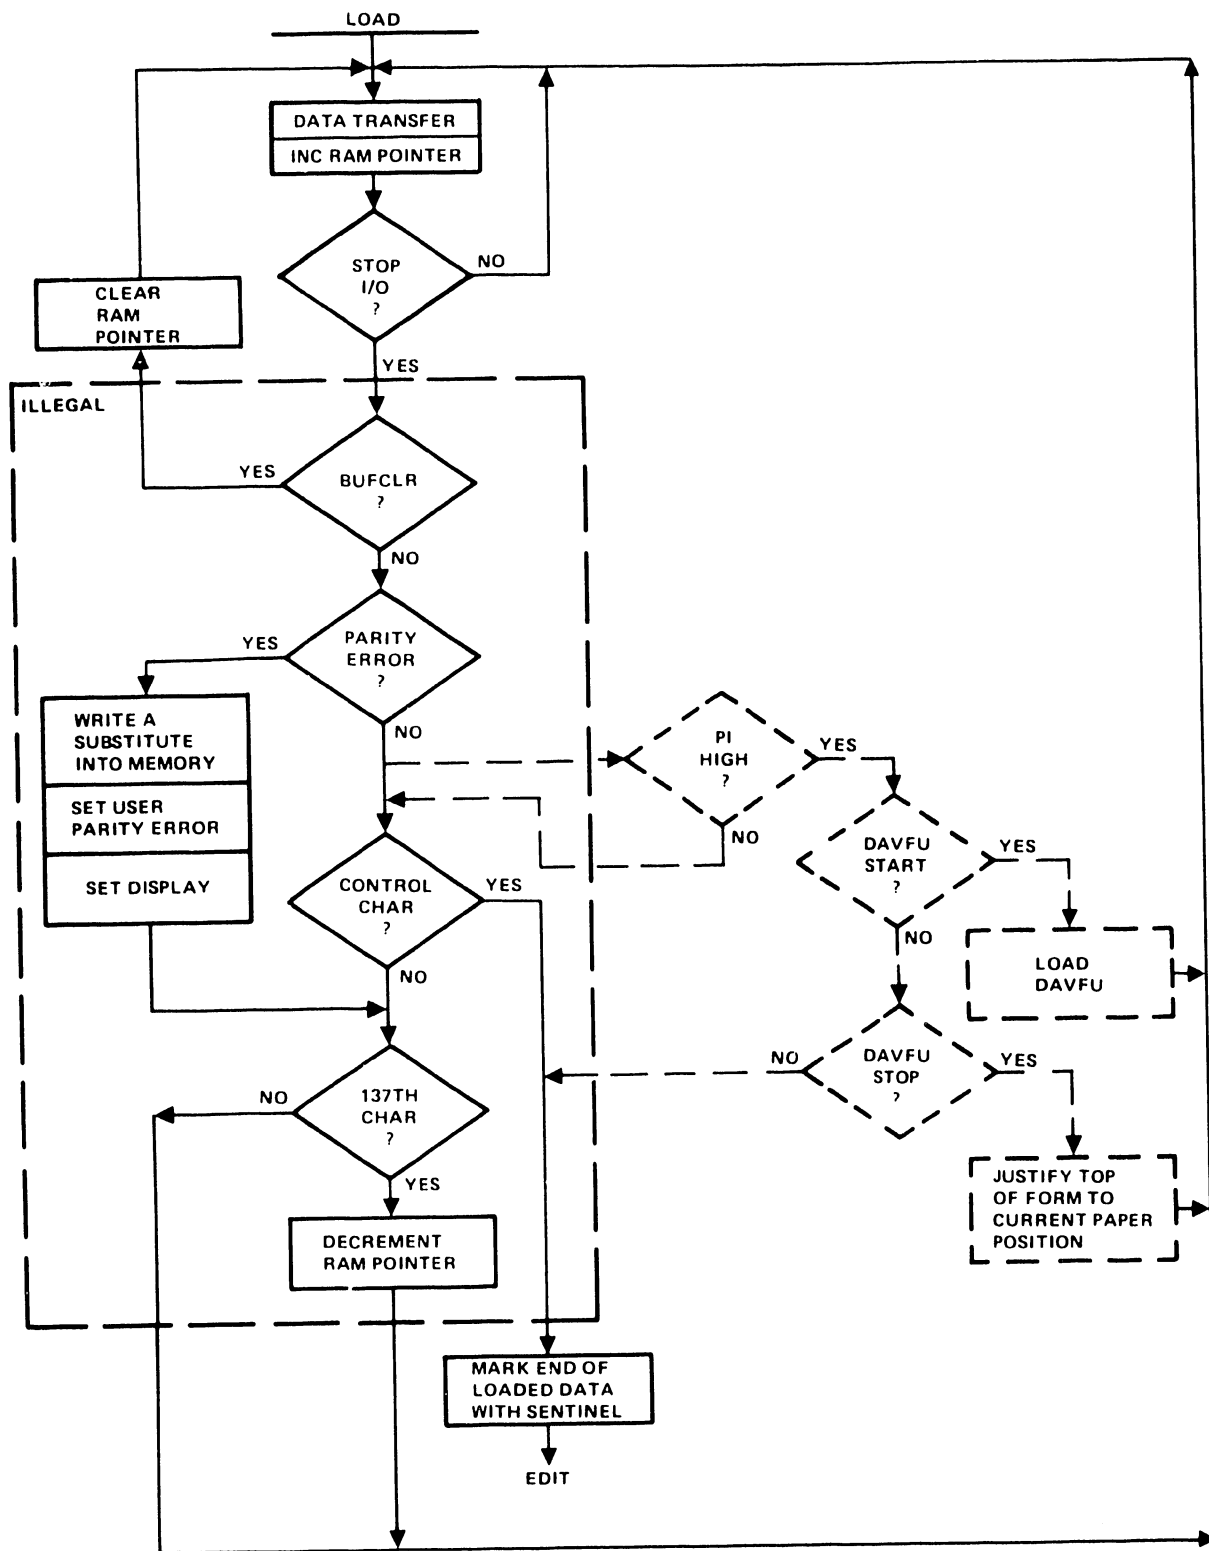

Figure 2-70. 20-Bit Processor Load Data Routine
**Figure 2-70** illustrates the following instruction sequence for the 20-Bit Processor CCA.